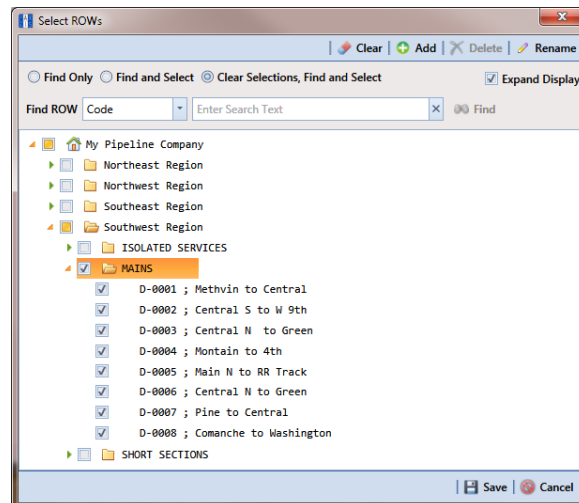

Figure 4-3. Select ROWs
- 1 If the *Select ROWs* window is not open, click **File > Select ROWs** (Figure 4-3).